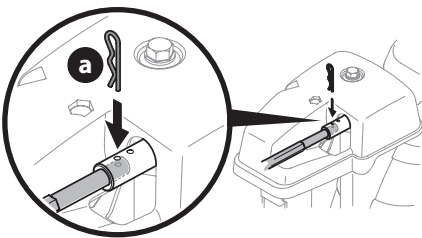

Figure 19
- Push chute control rod toward control panel until hole in rod lines up with hole in chute control input collar closest to chute control head and insert hairpin clip (a) removed in Step 1 (Figure 19).